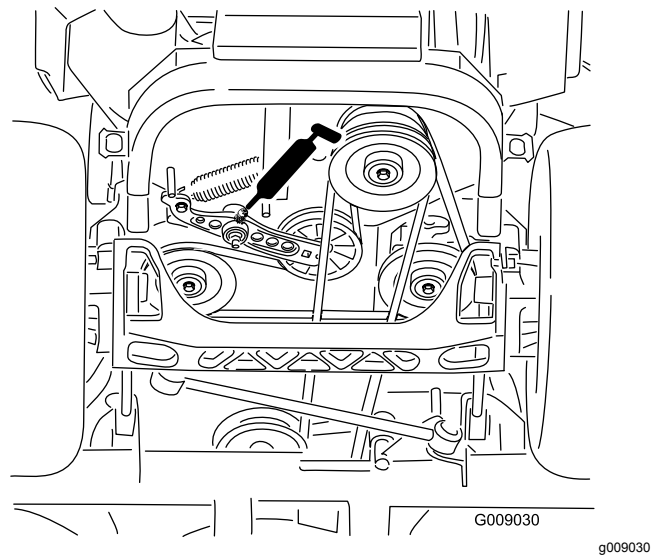

Figure 41
4. Grease the drive-belt-idler arm (Figure 41).